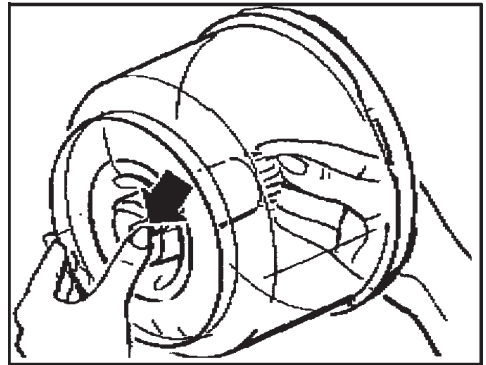

Figure 15.
2. The driveshaft can be readily removed from the slicer/shredder bowl by turning the bowl over and pressing against the driveshaft, as shown in figure 15, until the gear disengages and then pulling the driveshaft out.
- > The driveshaft should be removed from the slicer/shredder bowl, see figure 15;